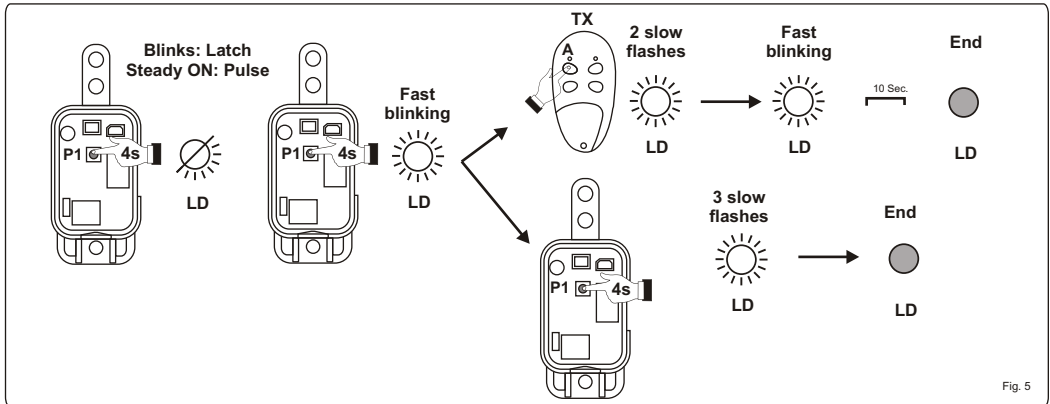

Fig. 5
- 1) Press and hold the push-button P1 for 4 sec. until the green led LD comes ON (Fig. 5); the led display the current operating mode according to par. 4.